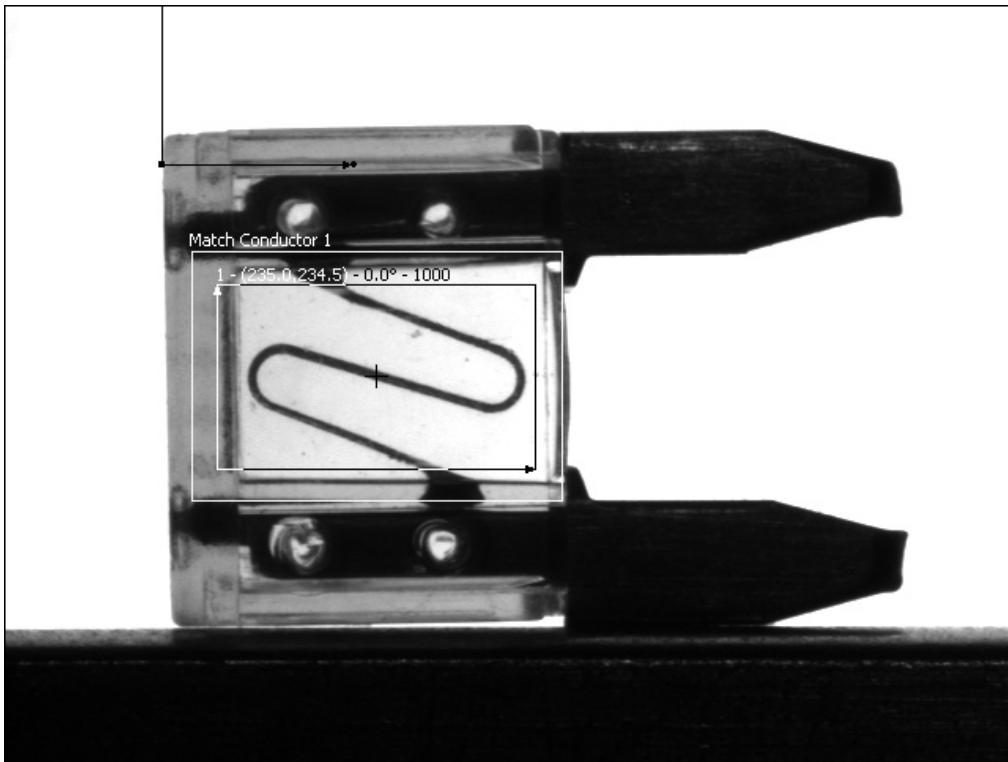

Figure 4-4. Limiting the Search Region
8. Redraw or decrease the default green ROI so that it surrounds an area slightly larger than the template, as shown in Figure 4-4.